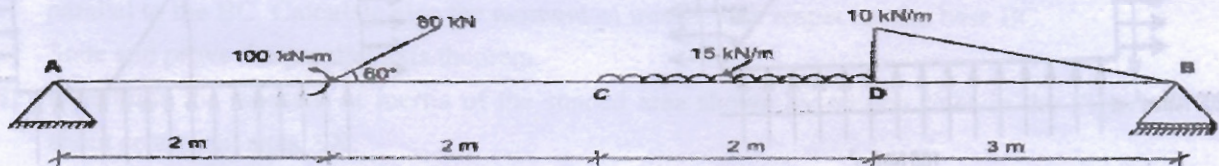

Fig. 11
- (a)** Draw Shear Force and Bending Moment Diagram for the beam shown in **Figure 11**.